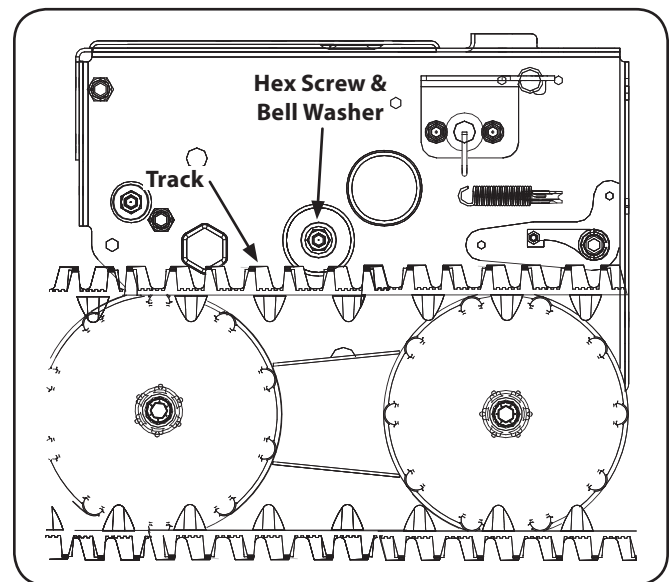

Figure 7-8
- Using a $\frac{3}{4}$ " wrench to hold the gear shaft, remove the hex bolt and bell washer on the left end of gear shaft. See Fig. 7-8 and 7-9.